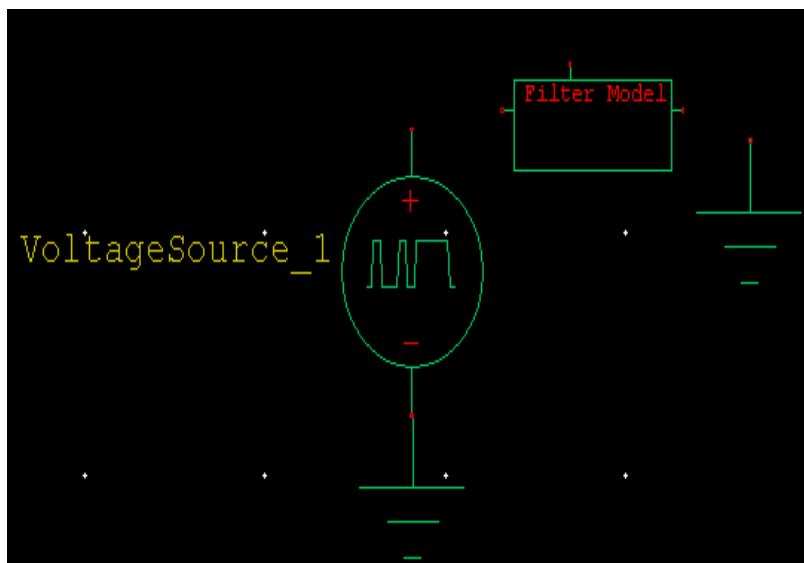

Figure 126: Instantiated ground module
- ☑ Similarly, instantiate a ground module and place it to the right of the filter model (Figure 126).